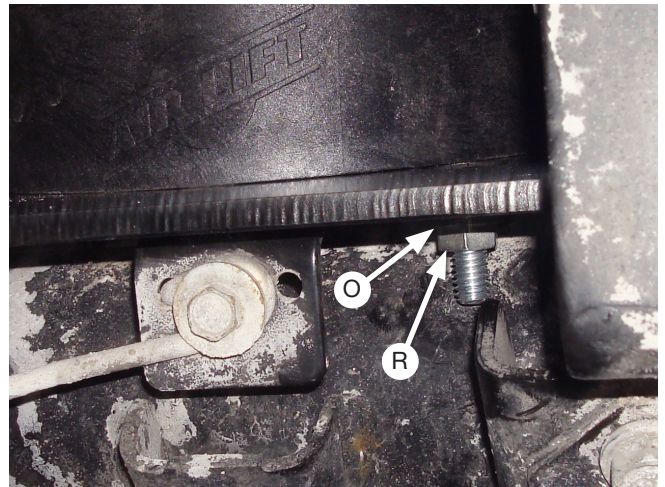

Fig. 15
2. Cap the weld studs on the lower bracket with 5/16" flat washers (O) and nylon lock nuts (R) (Fig. 15). Install the lower assembly on the opposite side and torque the hardware to 13 lb.-ft. (17Nm).